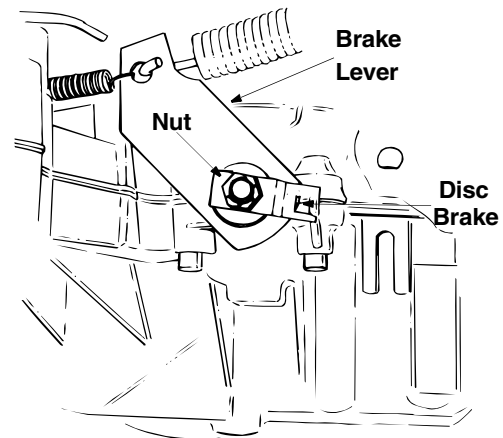

Figure 15
- To adjust the brake, adjust the nut so the brake starts to engage when the brake lever is 1/4" to 5/16" away from the axle housing. See Figure 15 .